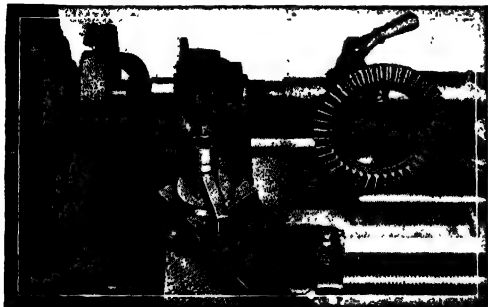

Fig. 5a.—Facing a Ring gear Set on a Lathe.
9. Remove lathe dogs and press out arbor if job is carried out by method illustrated in Fig. 5a.